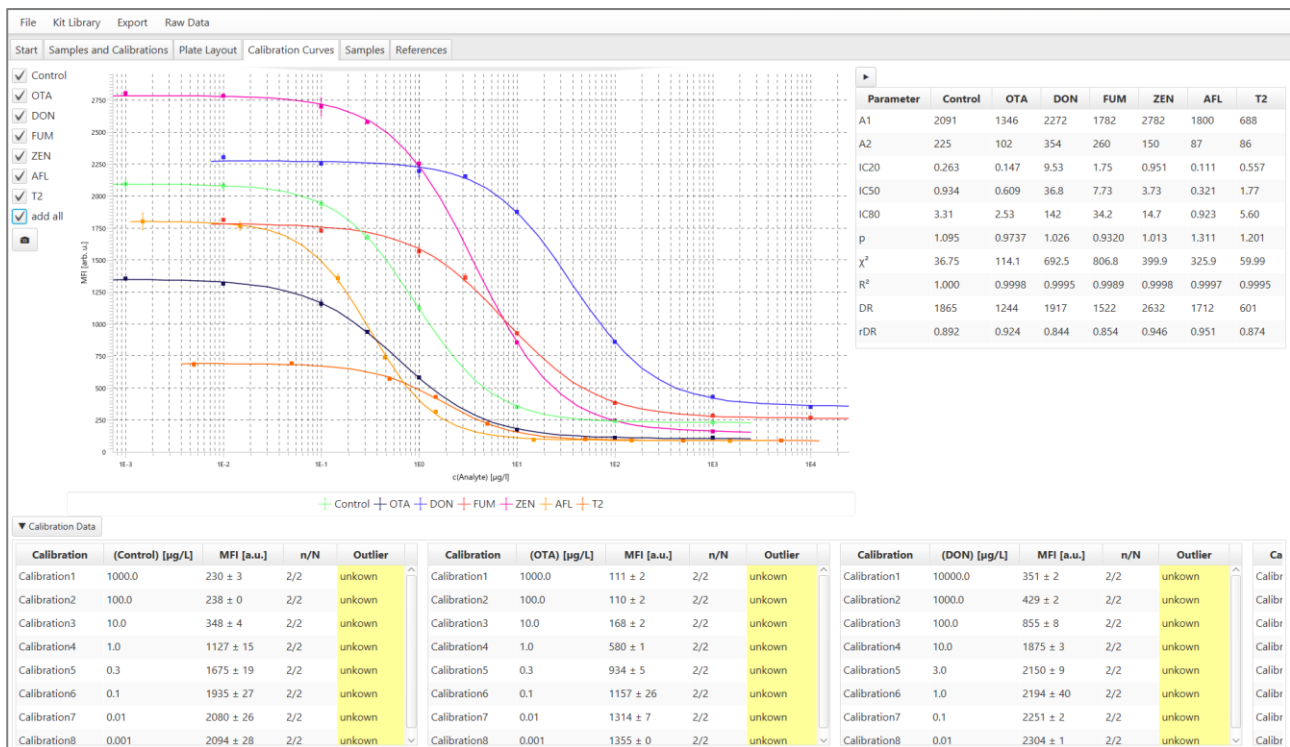

Figure 27. Overview of the functions in the *Calibration* workspace
3. Then click on the *Calculate* button. Sigmoid calibration curves are now created based on the plate layout and the measurement data of the calibration standards. These curves are used to automatically calculate the contents of the samples and reference samples (see Figure 27).